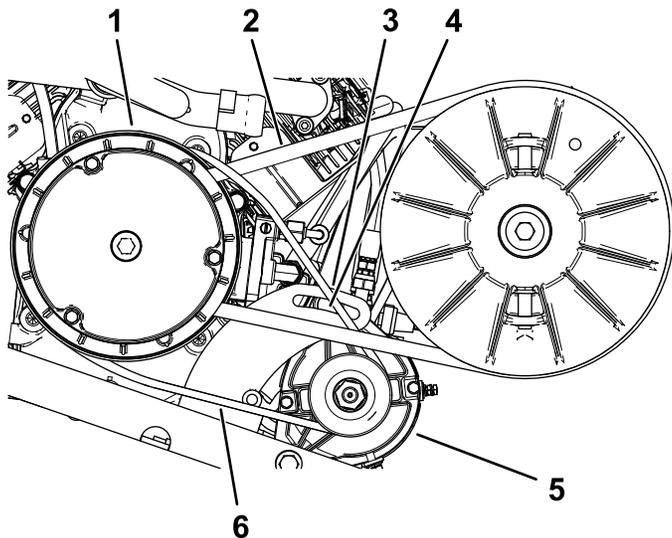

Figure 70
- Loosen the pivot nut for the starter generator (Figure 70).
- Apply downward pressure to the pry bar to rotate the starter down in the slot until the belt tension only allows 6 mm (1/4 inch) belt deflection with 44 N·m (10 ft-lb) of force (Figure 70).
- Tighten the pivot nut by hand, and remove the pry bar (Figure 70).